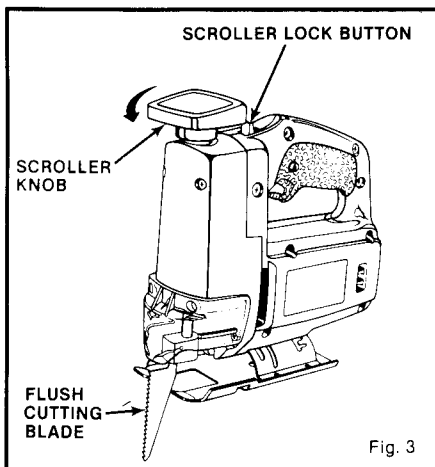

Fig. 3
1. See Figure 3. Slide the Scroller lock button toward the rear of the tool to allow the saw bar to be rotated.
2. Rotate the auto-scroller knob 180° as shown by the arrow in Figure 3.
4. Install flush cutting blade as shown in figure 3. Loosen blade screw, insert saw blade as far as possible into slot in blade clamp, then securely tighten blade screw. **NOTE: THE HOLES IN THE SAW BLADES WERE NOT DESIGNED FOR ALIGNMENT WITH THE SCREW HOLE IN THE BLADE CLAMP.**